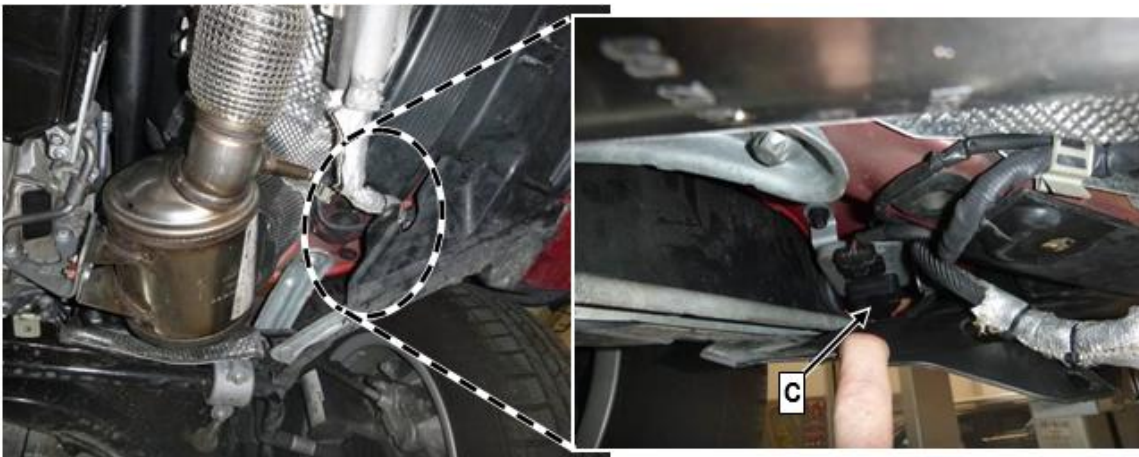

Figure 6
8. Loosen the wheel arch fairing on the lower right in order to remove the NOx sensor control unit for the NOx sensor (**C, Figure 6**) after DPF (**AR14.40-P-2038CD**).